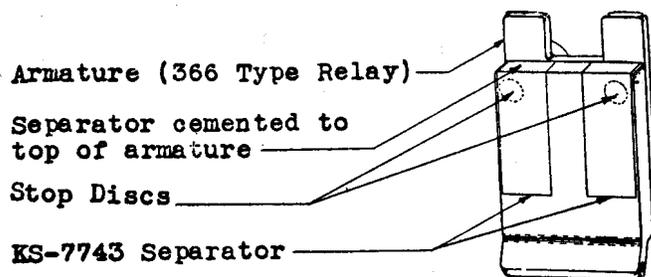

Fig. 9 - Location of KS-7743 Separator on 366-type Relay Armature
(1) Withdraw a strip of separator KS-7743 from the container and cut off two pieces 15/16" long. Fold over one end of the paper 3/16" long to form a right angle. Insert one of these separators between the armature and core so that the short offset portion extends toward the front of the relay and the long portion covers one of the stop discs as indicated in Fig. 9. The 6" tweezers may be used to facilitate inserting this separator between the armature and core. Apply a small amount of KS-7756 cement to the short end of the separator, using a clean toothpick, and hold the short end of the separator firmly against the top surface of the armature until it adheres. Repeat the above procedures applying the other separator over the other stop disc.
(2) After the separators have been applied, check that the relay meets the electrical and mechanical requirements and readjust if necessary.